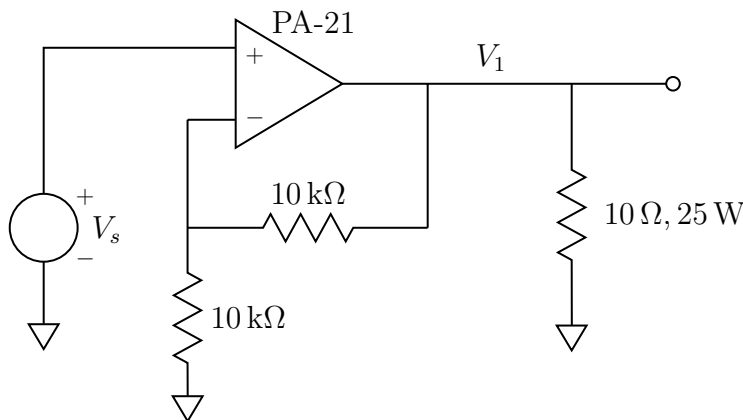

Figure 2: Amplifier with resistive load. The 10k resistors shown are soldered-in on the amplifier board.
1. **Resistive load:** Carefully connect the amplifier to the supply as described above. Use a $10\ \Omega$, 25 W power resistor as the load in a non-inverting gain of two connection. The circuit you build should appear as shown in Fig. 2. The 10k resistors shown are soldered-in on the amplifier board. We have also soldered in a pair of $1\ \text{M}\Omega$ resistors to provide the input current of the amplifier under conditions where you have not connected its inputs. However for present purposes, you can simply ignore these resistors. Use your protoboard to interface the signal generator through a BNC connector to the input of the power amplifier. The power resistor is provided for you on the amplifier terminal strip.